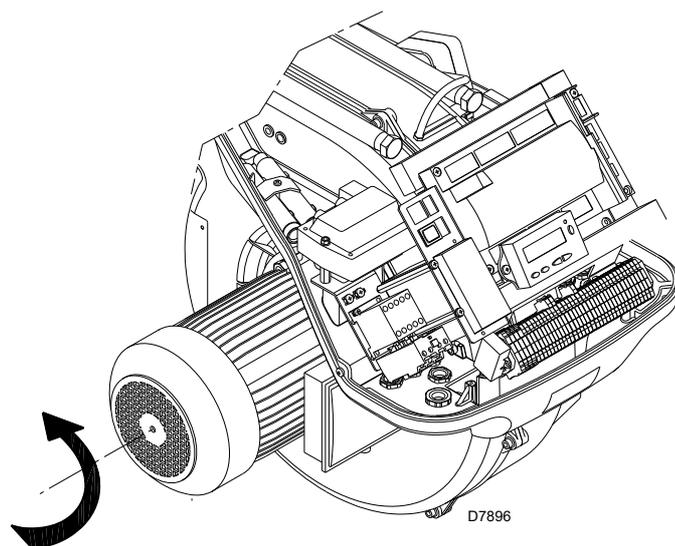

Fig. 31
Close the thermostats/pressure switches and turn the switch of Fig. 31 to position “1”.
As soon as the burner starts up, go in front of the cooling fan of the fan motor and check it is rotating anticlockwise. See Fig. 31.
- place the switch of Fig. 31 in position "0" and wait for the control box to carry out the switch-off phase;
The burner is in the heat request waiting mode, or the selector "0-1" (Fig. 31 at page 33) is in the "0" position.